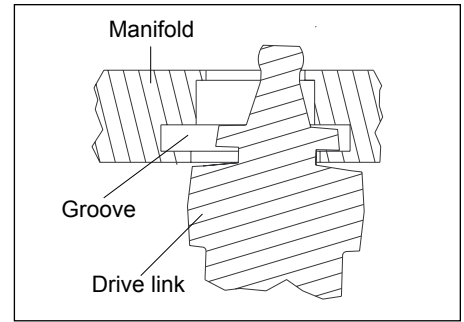

FIGURE 1
- D)** Insert the drive link (5) into the shaft with the tapered end facing up. Place a body seal (1) into the groove in the face of the rotor assembly (6). With the seal side of the rotor assembly (6) facing the housing (13), line up the splines of the drive link (5) and the rotor assembly (6) and lower the rotor assembly onto the housing (13) making sure to use the alignment marks as a guide to assure correct orientation of the rotor assembly (and the remaining components).
- E)** Place a body seal (1) into the groove in each face of the manifold (7). Lift the drive link (5) approximately 3 [.10] and place the tip of a small screwdriver under the disk-shaped portion of the drive link to hold it up. Making sure that the notch in the manifold is aligned with the notch in the rotor and that the side with the largest holes faces down. Lower the manifold (7) onto the motor and engage the disk shaped portion of the drive link (5) into the groove in the manifold (5) (See Figure 1). Remove the screwdriver and lower the manifold (7).
- G)** Install the commutator seal (4) into the commutator (8) with the metal side facing up (Refer to PI333004 when replacing commutator seal). Use finger pressure to press the seal down flush with the surface of the commutator. Place the commutator container (8) onto the manifold (7) and then place the commutator onto the protruding end of the drive link (5) making sure that the seal side faces up.
- H)** Install the remaining body seal (1) in the groove in the face of the endcover (11). Install the piston spring (10) into the endcover (11), then the white Teflon seal (3), followed by the O-ring seal (2). Lining up the alignment pin, press the piston (9) into the endcover (11). While holding the endcover piston (9) into the endcover (11), lower the endcover assembly onto the motor.
- I)** Install the four assembly bolts (12) and pre-torque to 13,6 Nm [10 ft. lbs.] Final torque all bolts to 67,8 [50 ft. lbs.]